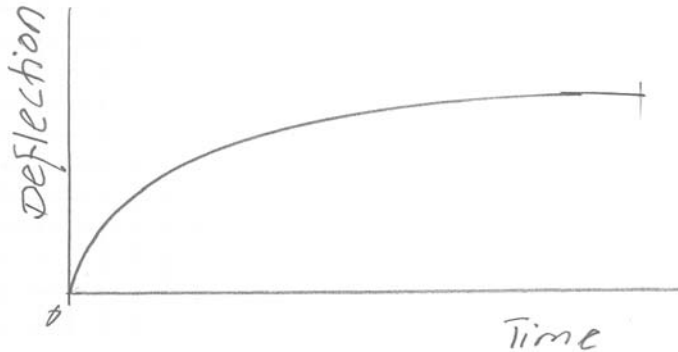

FIGURE 1 SHRINKAGE DEFLECTION WITH TIME
- ❖ Shrinkage starts as soon as concrete is exposed to the environment and loses moisture through its surface. Figure 1 shows the typical change of deflection due to shrinkage with time.